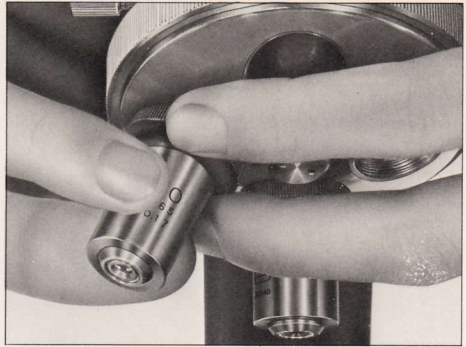
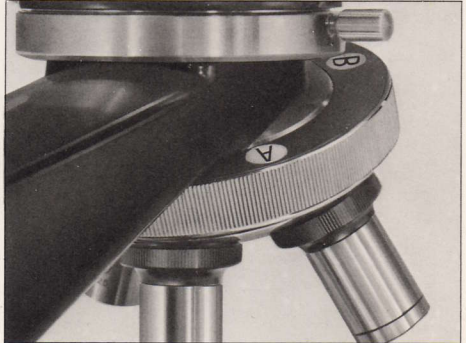

Fig. 3
Fig. 4
(1) Mounting the Objectives
Take special care when handling the objectives. Before attaching the objectives to the nosepiece revolver, lower the microscope stage sufficiently. Securing each objective with the fingers of one hand, screw it into each nosepiece hole with those of the other hand (Fig. 3). Microscope model S-Kt has on the upper surface of the nosepiece revolver four spots indicated ①, ②, ③ and ④ (Fig. 4). It is advisable to mount the objectives below the indication spot in order from low to high powers as below: